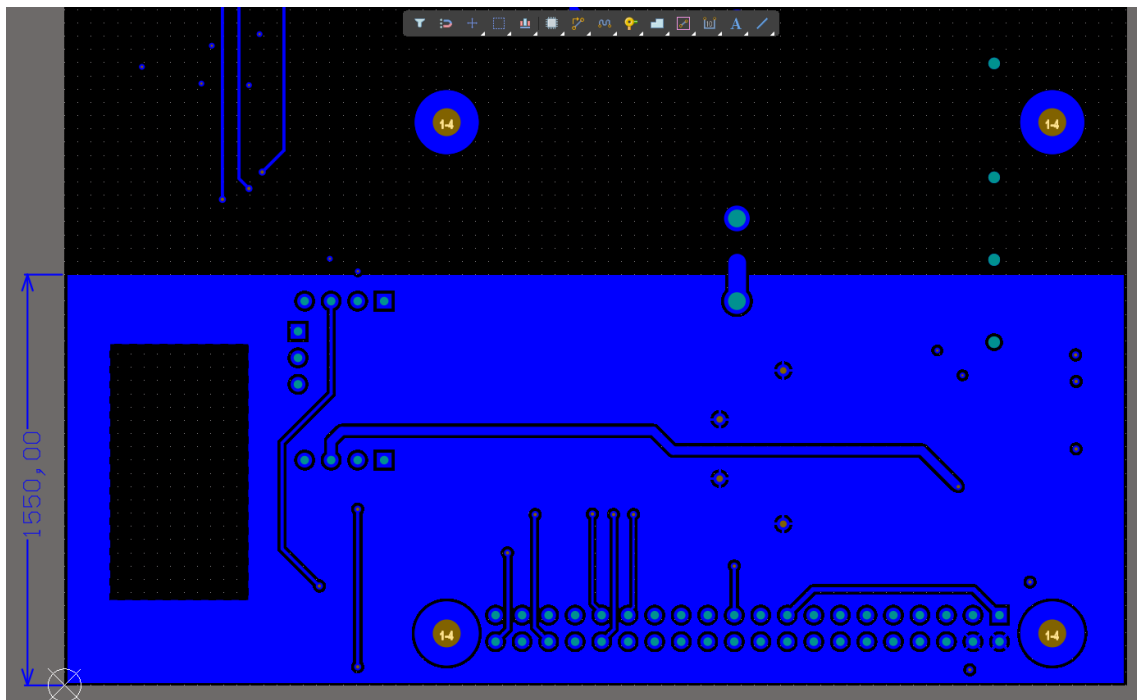

Figure 6. Polygon Pour added to the PCB, with Polygon Cutout on the left side.
24. Draw a rectangular polygon similar to what is shown in Figure 6. Ensure that the polygon ends at the origin where you initially started the polygon.